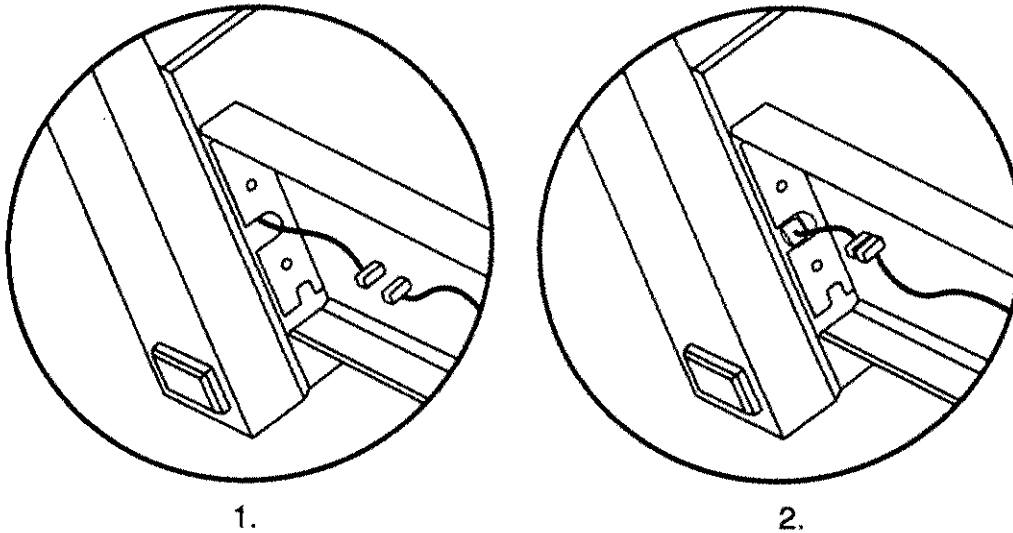

Figure 3. Connecting Cables.
6. See Figure 3. Place the Left Leg against the Pedal Cross Member as shown. Then feed the cable on the Left Leg through the bracket on the Pedal Cross Member.